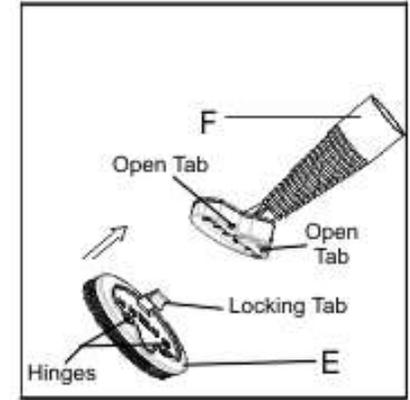

Fig. 6
3. To attach the garment brush (marked E) onto the diffuser (marked F), place the two hinges at the back of the garment brush (see fig. 6) into the two open tabs that are at the back of the steam diffuser. Swing the garment brush up against the bottom of the steam diffuser until the locking tab engages.